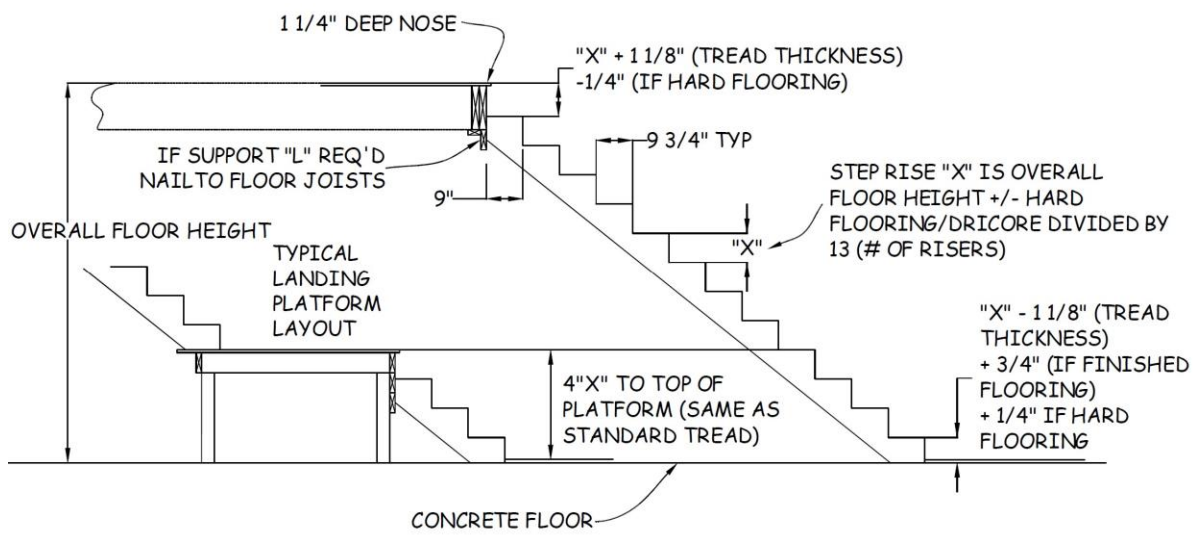

Figure 4-4. Stair Stringer Installation.
4. Reduce the height of the last riser at the bottom of the stringer by $1\frac{1}{8}$ " (the thickness of the tread), unless the basement floor is to be finished. If the basement floor is to be finished, reduce the height of the riser by only $\frac{3}{8}$ ". This will accommodate the $1\frac{1}{8}$ " thickness of the tread and the $\frac{3}{4}$ " thickness of the DRICore (see Figure 4-4).
12. Use the last calculation in Figure 4-2 (Top Step Rise) and measure that distance down from the underside of the deck. Make a line on the stairwell framing at this point. This line marks the location of the tops of the three stringers (Figure 4-4).
1. A landing, if required, is a "joist" box made of 2x6's covered with ¾" floor decking with floor joists installed on 16" centers (see Figure 4-4).